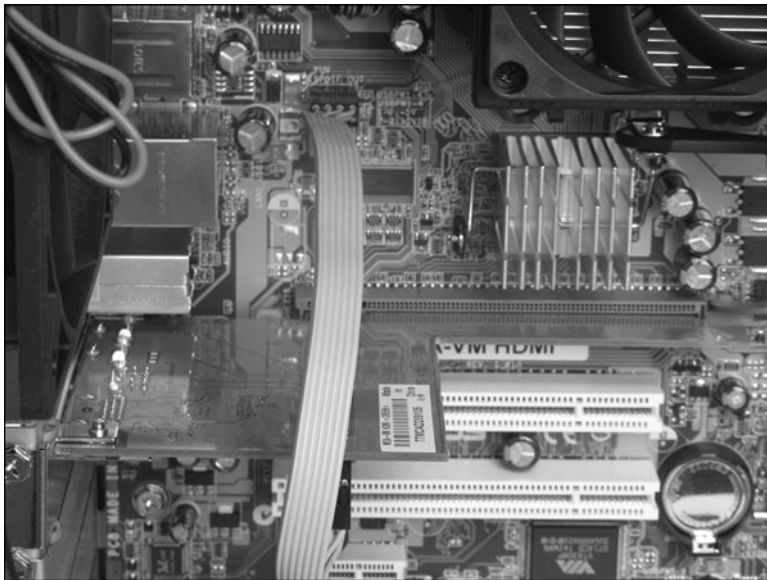

FIGURE 14.24
4. Connect the HDMI card's S/PDIF digital audio cable to the motherboard's S/PDIF Out digital audio header, as shown in Figure 14.24.